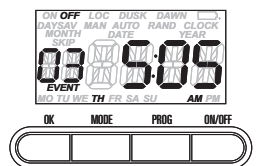

Fig. 19
5. Turn the selector knob until you reach the DOW setting you want (Fig. 19) and press **PROG** to accept the new setting.